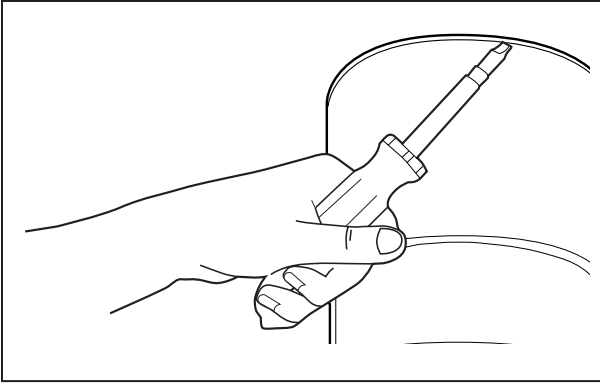

Figure 4.22
9. Place edge of flathead screwdriver between lower end frame and stator; tap end of screwdriver with rawhide mallet to separate lower end frame (see Figure 4.22).